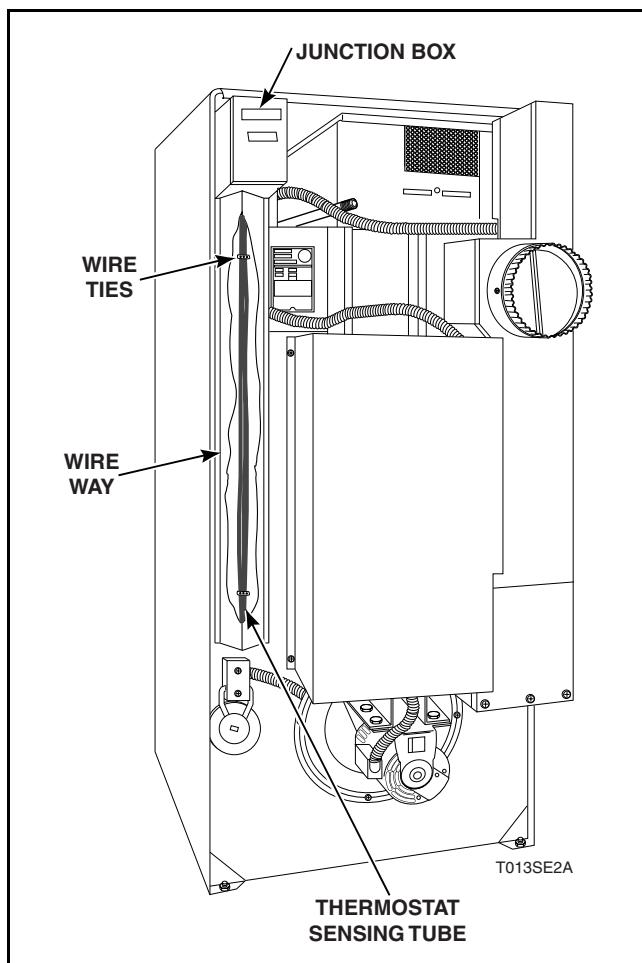

Figure 14
- e. Remove wire-way attaching screws. Refer to *Figure 14*.
- g. **Later Models:** Remove junction box cover attaching screws. Refer to *Figure 14*.